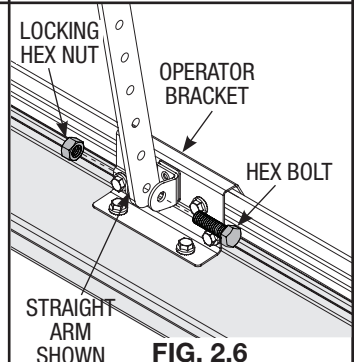

FIG. 2.6
(1) 3/8" - 16 x 1" hex bolt and (1) 3/8" - 16 LOCKING hex nut, as shown in FIG. 2.6.
(1) 5/16" - 18 x 1" hex bolt and (1) 5/16" - 18 LOCKING hex nut, as shown in FIG. 2.6.